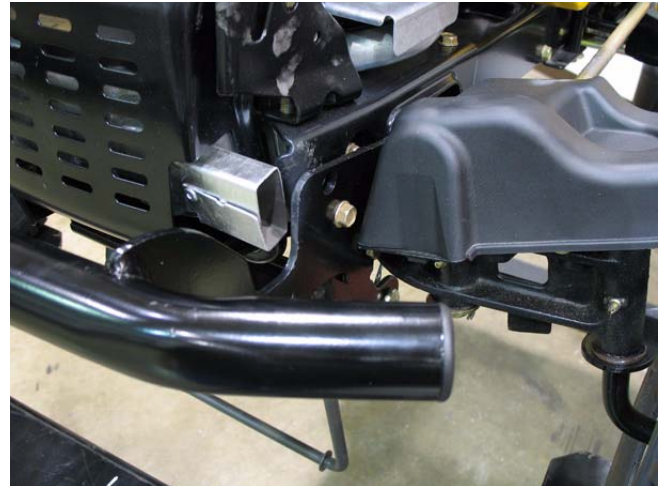

Figure 4.2
1. Remove the two screws, one on each side, on the bumper bracket. See Figure 4.2.